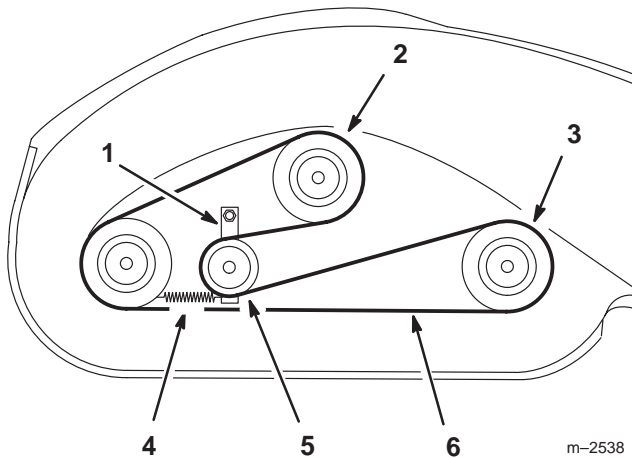

Figure 24
2. Grease the fittings on the three spindle bearings and the idler arm (Fig. 24).
4. Disconnect the idler arm spring to relieve the tension on the idler arm and idler pulley, then remove the worn deck belt (Fig. 24).
5. Install the new deck belt around the 2 outboard spindle pulleys, the idler pulley, and in the lower groove of the center spindle pulley (Fig. 24).
6. Connect the idler arm spring (Fig. 24).